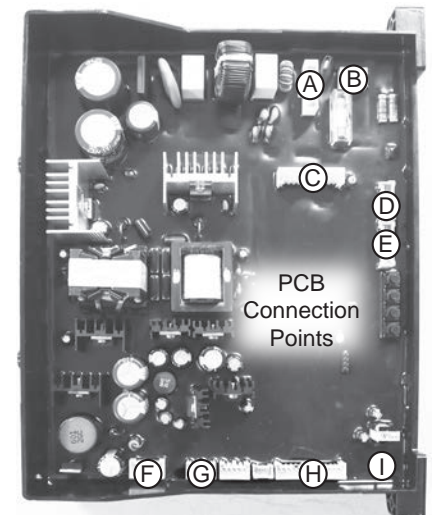

Figure 54 - Disconnecting PCB wiring
- 6** Using Figure 54 as reference, disconnect the wiring harnesses A through I from the PCB.
12 Reconnect the wiring harnesses removed in **Steps 6-10**. Reference Figure 54 for placement of each wiring harness.